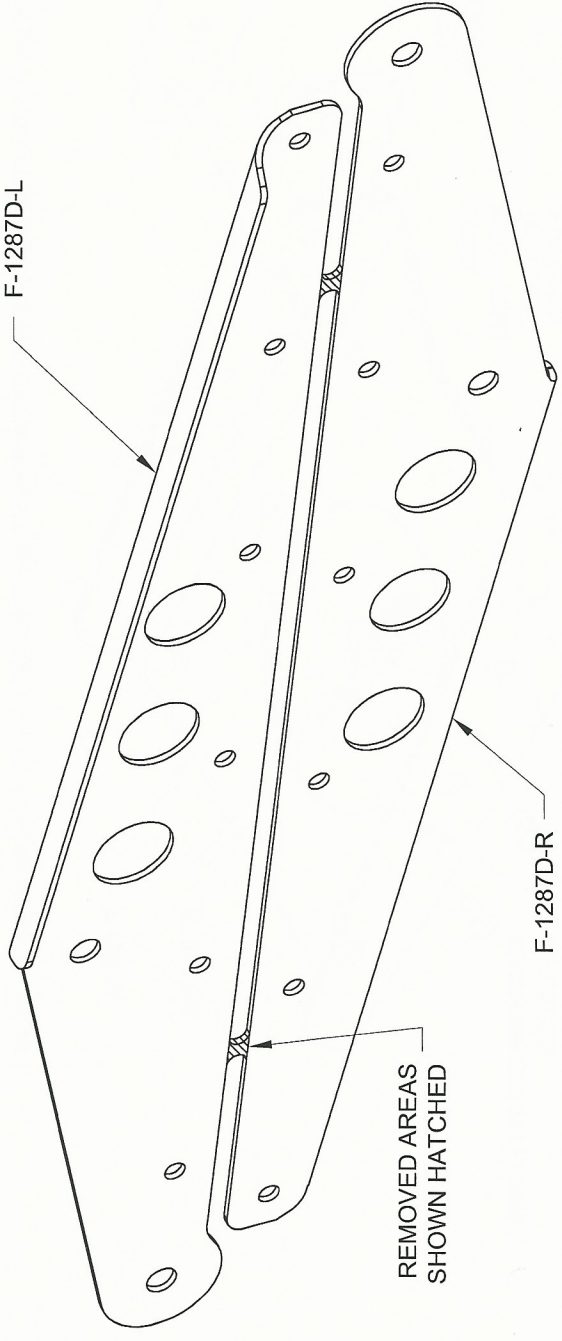

FIGURE 3:
Step 3: Mark then separate the F-1287D-L & -R Clevis Plates by removing the material called out in Figure 3.